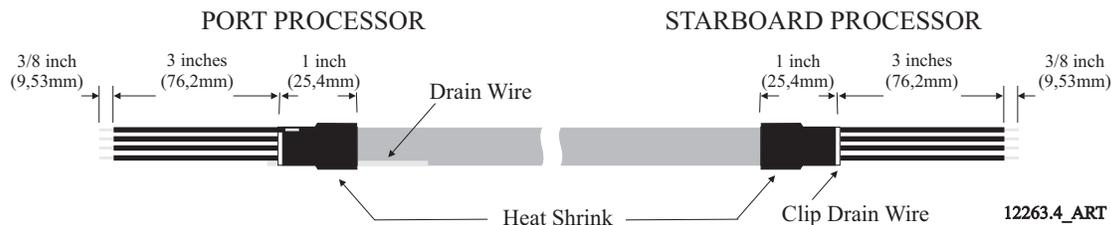

Figure 4-13: Four-Conductor Serial Communication Cable
- G On the Port end of the cable, bend the drain wire back and tuck it under the shrink tubing so that the drain wire end is exposed past the shrink tubing. (Refer to Figure 4-13: Four-Conductor Serial Communication Cable.)